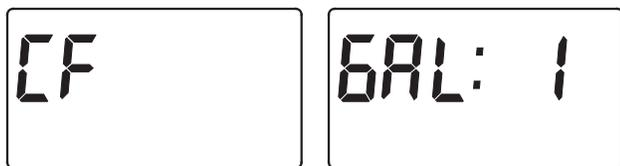

FIG. 27
- 4. CHEMICAL FEEDER TRIP VOLUME:** If you have set the auxiliary output control to CF (Chemical Feeder), you will need to set the volume of water which must flow past the turbine before the auxiliary output is turned on. With the alternating screens in Fig. 27 shown, use the \triangle UP or ∇ DOWN buttons to set the trip volume, in gal-